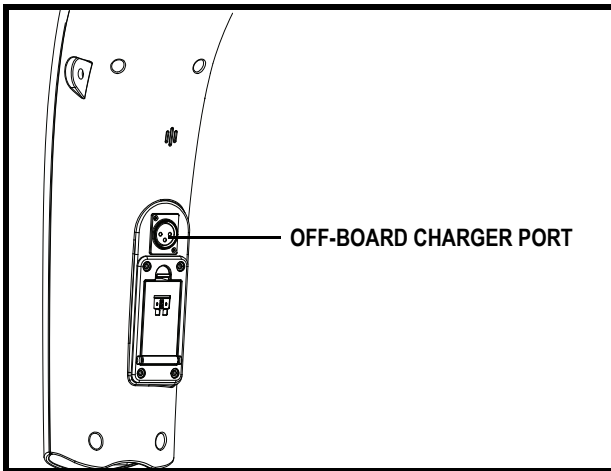

Figure 5. Off-board Charger Port
The off-board charger power lead plugs into this port during battery charging. The off-board charger port is located on the tiller. See **figure 5**.
4. Plug the 3-pin charger power lead into the off-board charger port. **See figures 5 and 11.**